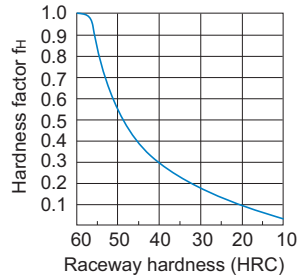

Fig. 1 Hardness Factor (f_H)
- f_H : Hardness factor (see Fig.1 **11-6**)